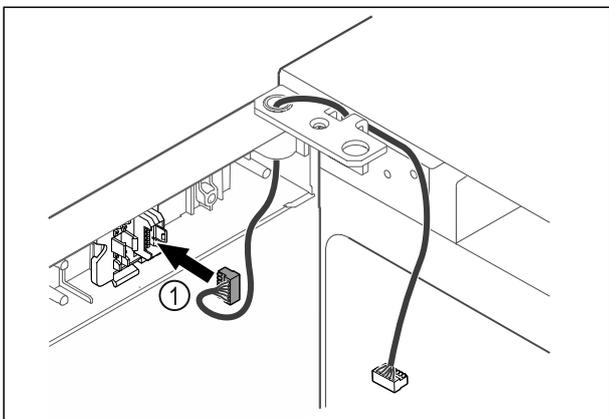

Fig. 36
- Put the plug Fig. 36 (1) in the plug holder.